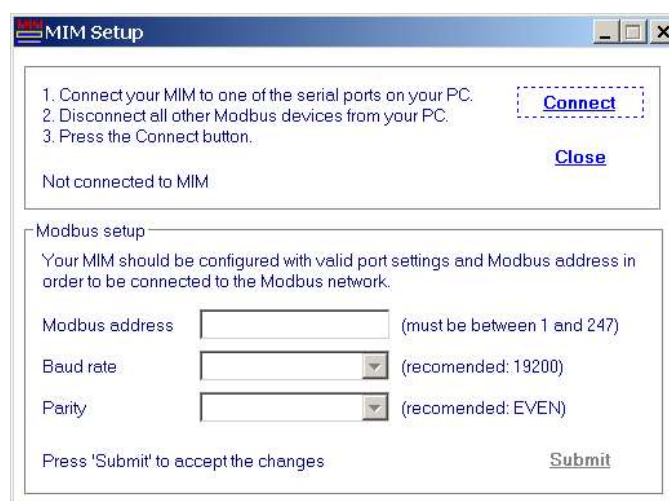

Figure I-2. MIM Setup Program
- Run *MIM Setup* – click **Start | Programs | SonTek Software | MIM Setup**. You will see the window shown in Figure I-2.